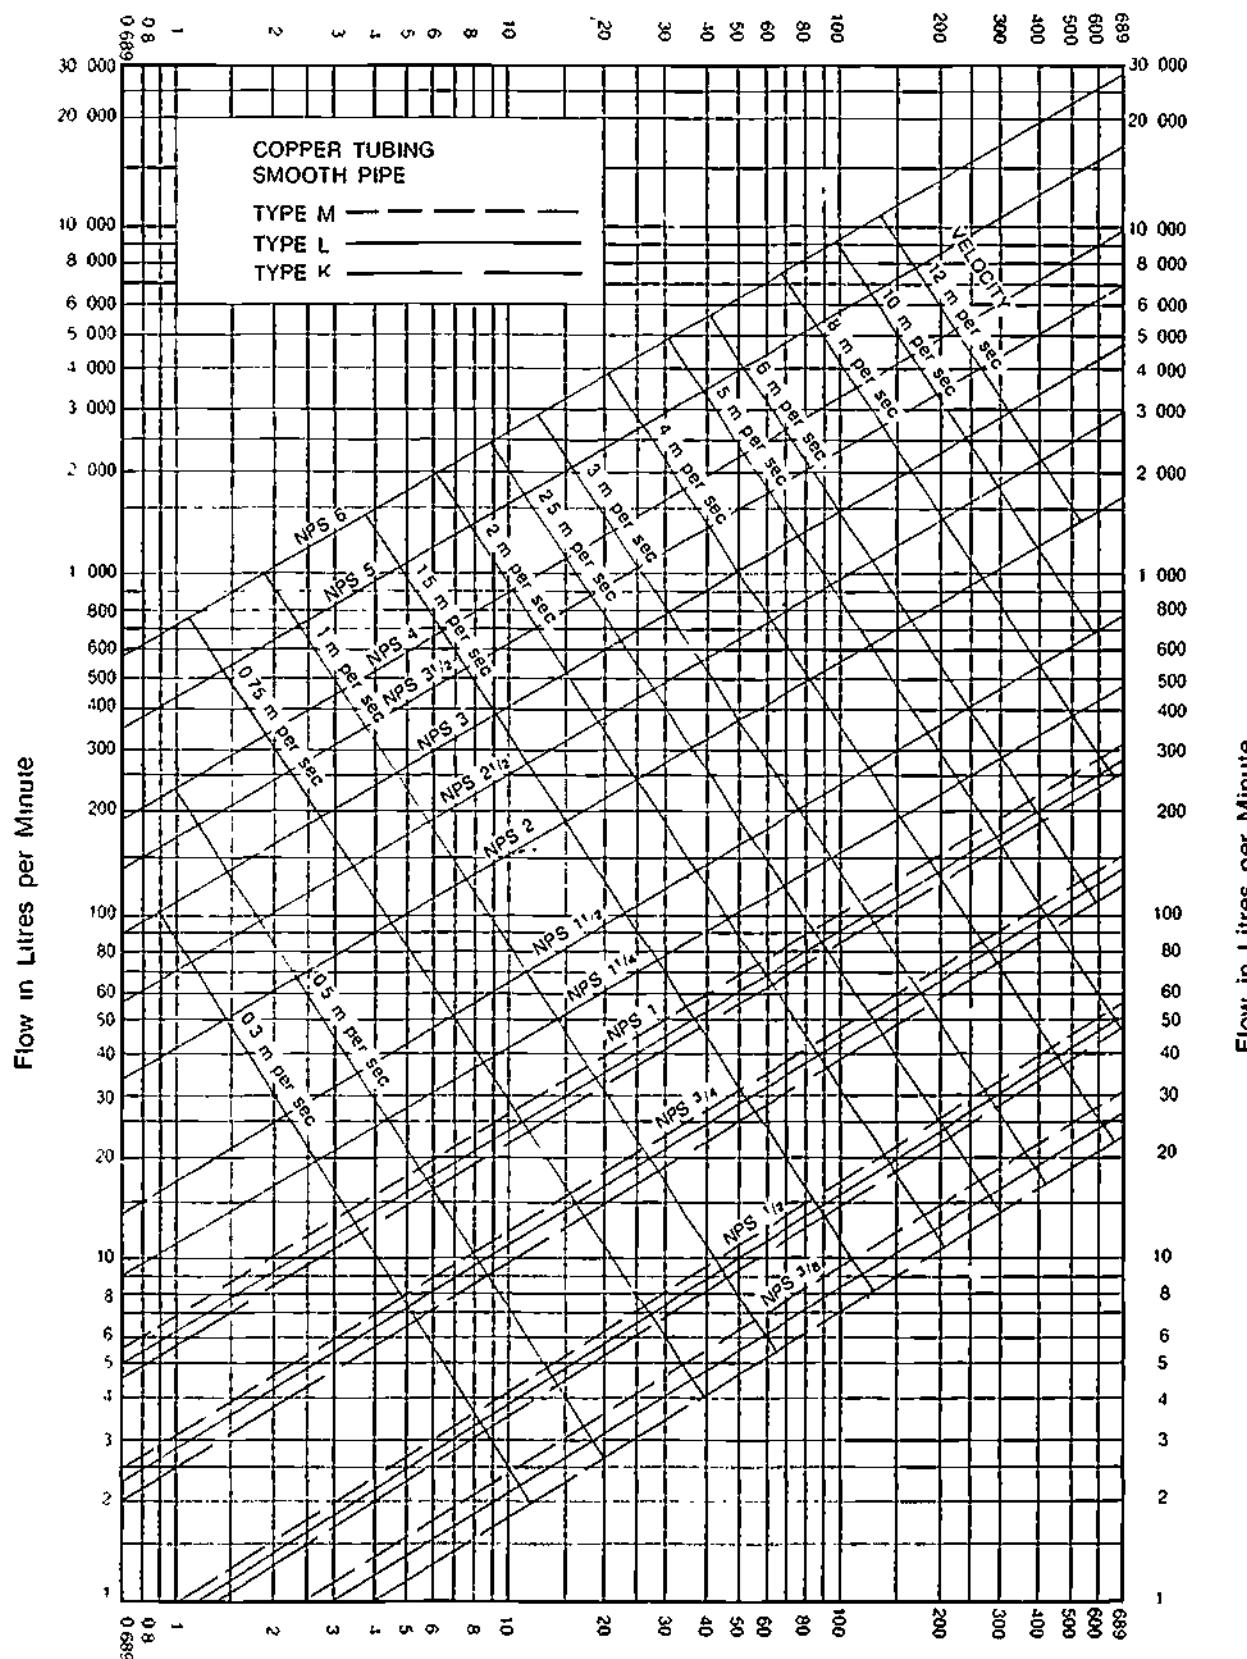
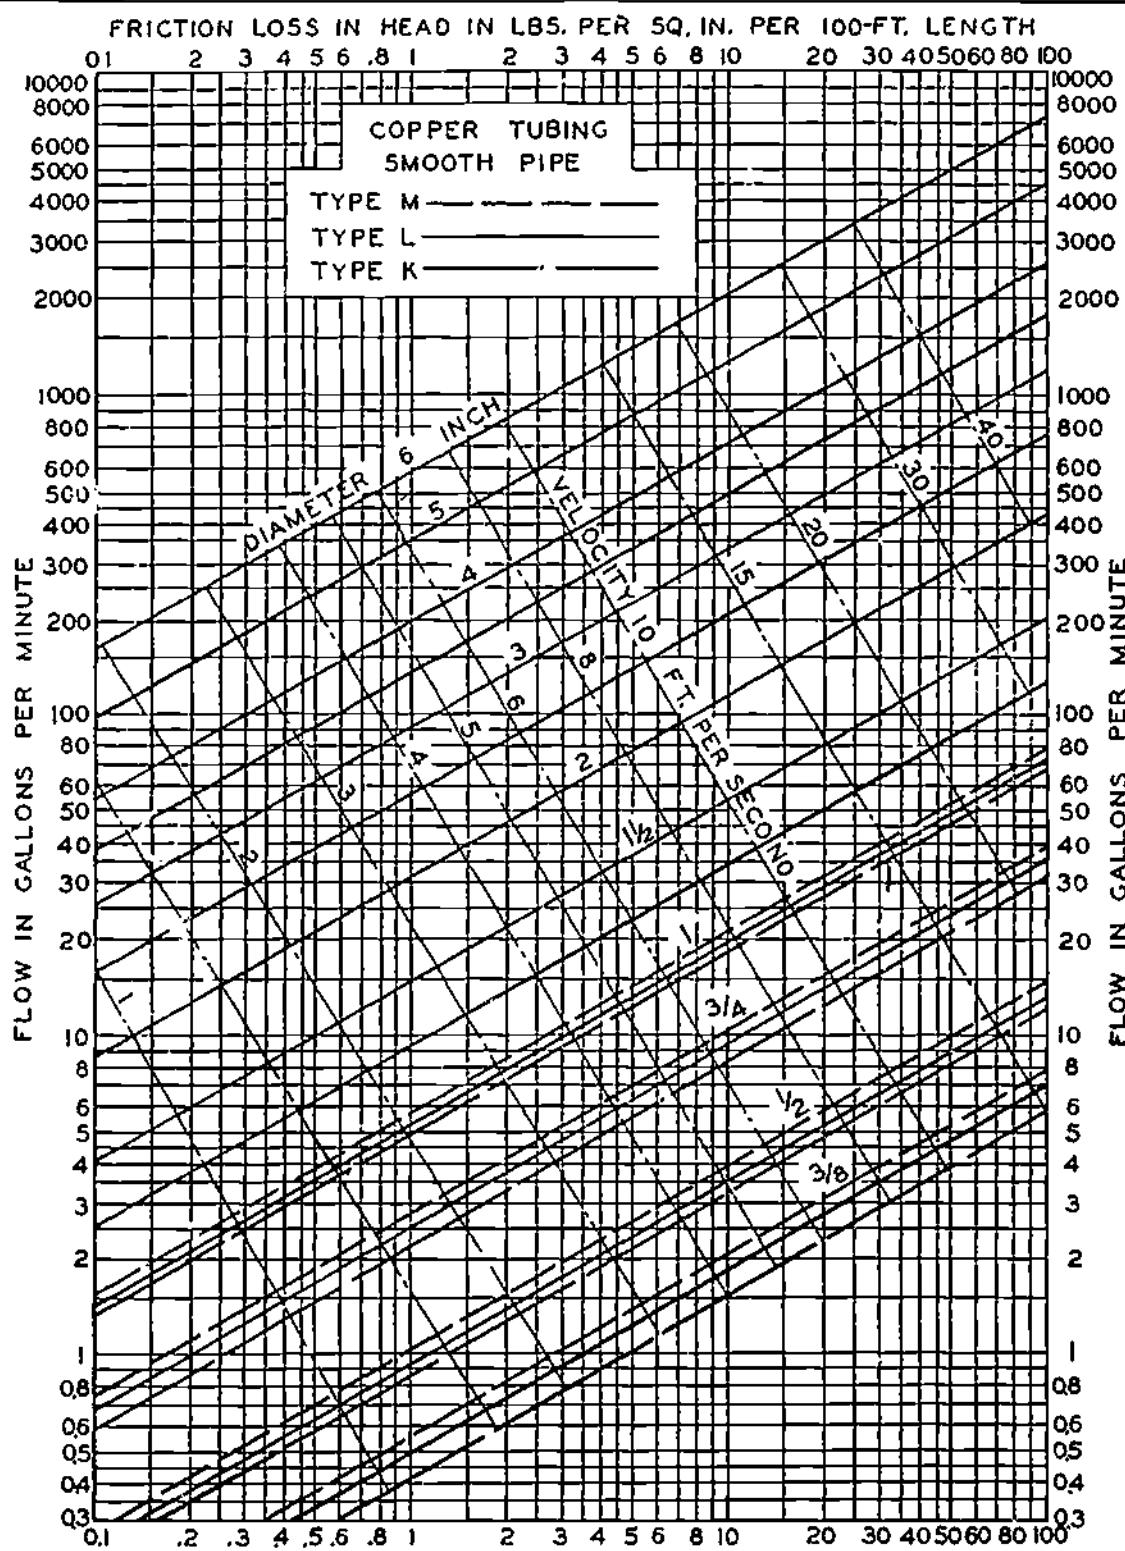

Figure 33-1. Friction Loss in Head in kPa per 30 m Length
Figure 33-4. Friction Loss in Head in Lbs. per Sq. in. per 100-FT. Length
31. Figures 33-1 to 33-3 (in metric) and Figures 33-4 to 33-6 (in imperial) at the end of this section give the pipe friction losses corresponding to the above three classifications for various nominal diameters and velocities.